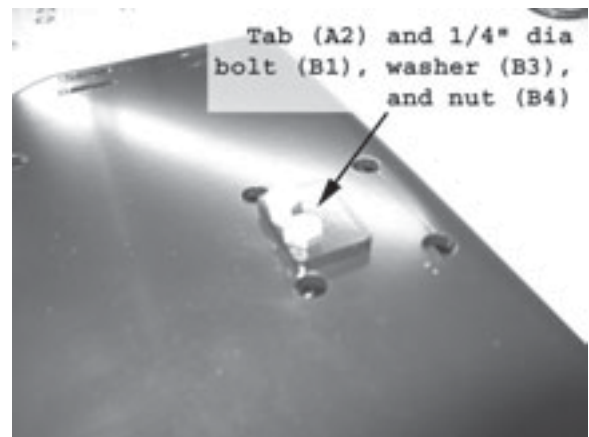

Figure1 Attach Tab to Plow Mount
1. Attach the Tab to the Plow Mount with two 1/4" dia-1" long bolts, 1/4" washers, and 1/4" nylock nuts as shown in Figure 1. Align the tab edges to the plow edges before tightening. The heads of the bolt should be on the tab side while the washers and nuts on the underside of the plow mount.